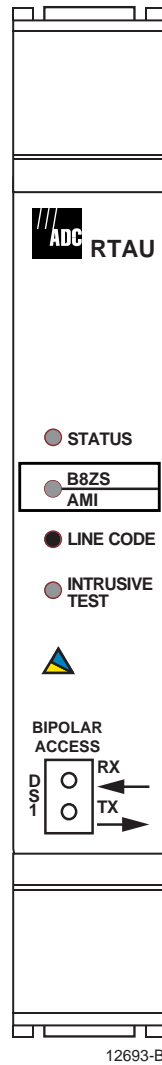

Figure 3. RTAU Front Panel
1. When the RTAU module (Figure 3) is seated, the STATUS LED will be lit red for approximately 5 seconds. All LEDs will then flash yellow, and then the STATUS LED will be lit green. If the STATUS LED is not lit green after 10 seconds, replace the module. Refer to **2.2 Maintenance Installation (Existing System)**.
All controls and indicators of the RTAU including the jack accesses for a selected DS1 signal are located on the front panel (Figure 3). The controls and indicators are described in Table 2.
1. Refer to Figure 3 (shown previously). Check that the STATUS LED on the front panel of the RTAU module is green, indicating that the module is operating normally.